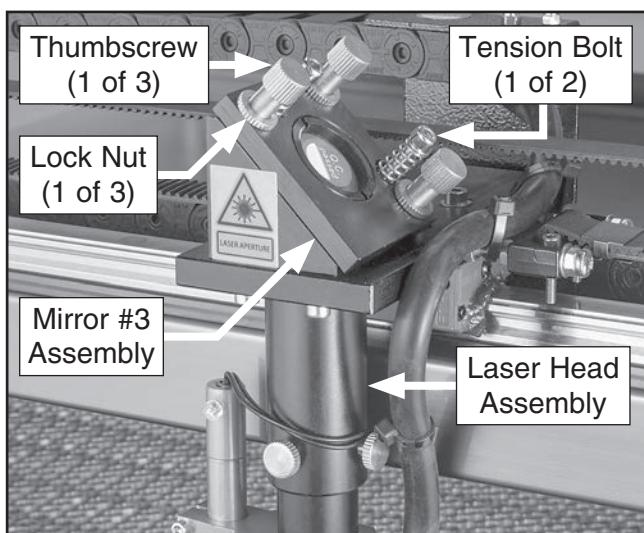

Figure 131. Mirror #3 assembly components.
22. Loosen lock nuts on (3) brass thumbscrews located behind Mirror #3 assembly (see **Figure 131**).